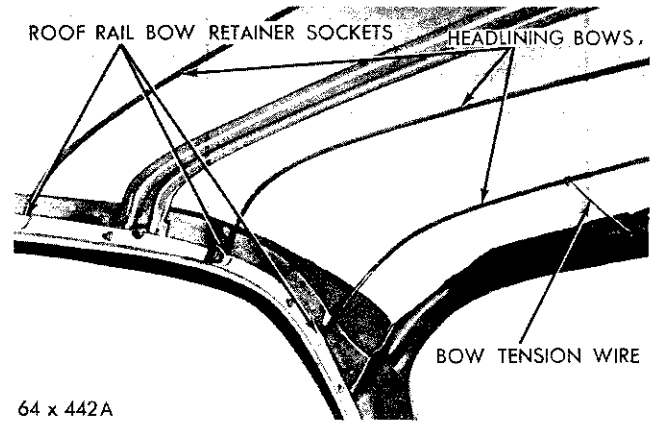
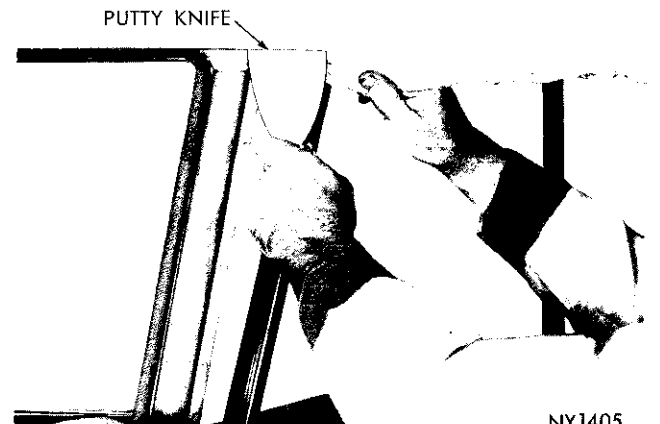

Fig. 17—Headlining Bows
Fig. 18—Removing Headlining at Roof Rails
The roof rails on all models using vinyl headlining are strung through retaining loops sewed into the lining. Each bow is held in place by an attaching loop pressed into each roof rail (Fig. 17) and spring into
- (1) Remove the rear seat cushion, dome light assembly, sun visors, rear view mirror and coat hook.
- (2) Using a putty knife, disengage the headlining from the barbs at the top of the rear window.
- (3) Remove the headlining from under the shelf panel and from the rear quarter panels.
- (4) Disengage the headlining from under the roof rails using a putty knife (Fig. 18).
- (5) Remove the headlining from the windshield header. Use extreme care not to damage the lining.
- (6) Remove the headlining bows from the roof rail retainers and the tension spring from the rear bow (Fig. 17).
(7) Beginning at the rear, install the rear bow and the rear bow tension spring (Fig. 17).
(8) Install the remaining bows, making sure to stretch the headlining evenly so that approximately the same amount of material hangs down both sides.
(9) Apply cement to the windshield header bar. Wait until it becomes tacky, then stretch the headlining forward and over the cemented area, and onto the barbs on the windshield header. Make sure the first seam of the headlining is straight.
(10) Cut holes in the headlining for the visor retaining screws and pivots. Install the visors before tucking in the corners of the headlining at the top of the windshield posts to prevent tearing the headlining when tightening the screws. Install the rear view mirror.
(11) In most cases the listing is longer than necessary. Cut the material at the ends to prevent wrinkling at the seams when it is tucked or cemented in place. Cut the listing from the end up to the clip. Use care to prevent cutting the listing too far up the bow and ruining the fit of the headlining.
(12) After the listings are cut, start at the front and trim the headlinings so that only $\frac{1}{2}$ to 1 inch of material hangs down below the rear window opening.
(13) Use a dull putty knife to tuck the first and second seam between the roof side rail and retainer,